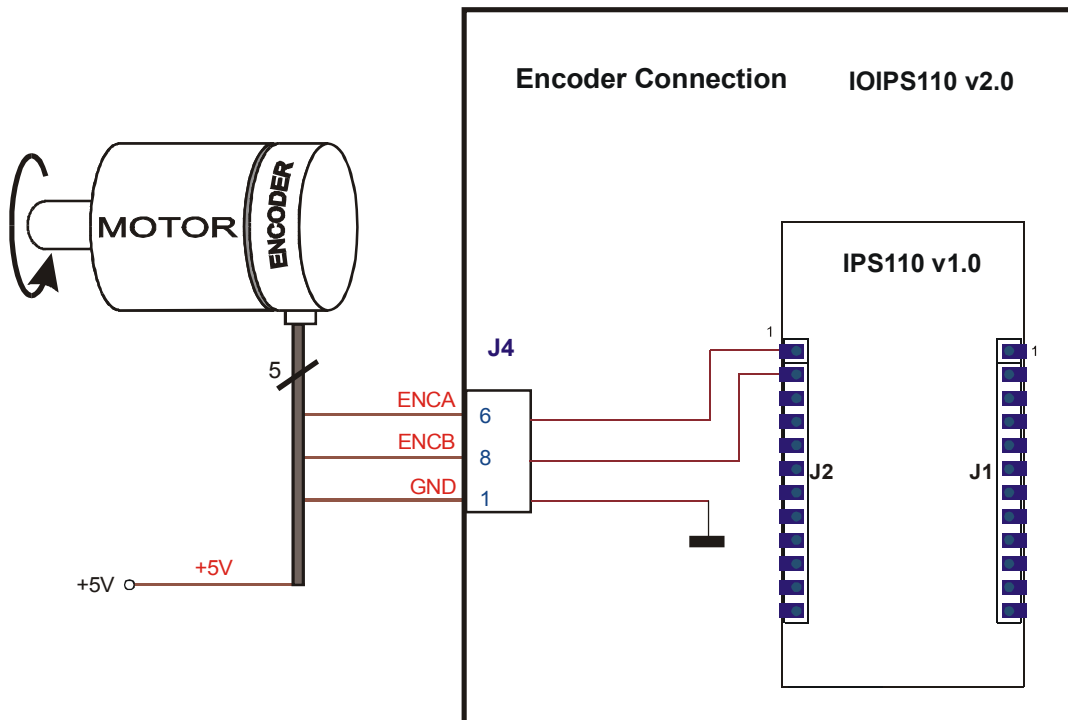

Figure 2.1. Encoder – J4a connector
2. Connect the encoder to the IOIPS110 board as you can see in the Figure 2.1 (optional)